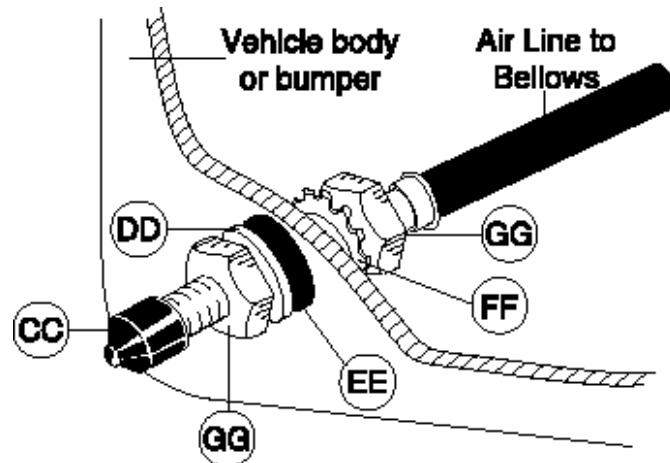

fig. 11
3. Cut the air line assembly (AA) in two equal lengths (Figure 11).
4. Place a 5/16 " nut (GG) and a star washer (FF) on the air valve. Leave enough of the inflation valve in front of the nut to extend through the hole and have room for the rubber
washer (EE), flat washer (DD), and 5/16 " nut (GG) and cap (CC). There should be enough valve exposed after installation - approximately 1/2 " - to easily apply a pressure gauge or an air chuck (Figure 11).
5. Push the inflation valve through the hole and use the rubber washer (EE), flat washer (DD), and another 5/16 " nut (GG) to secure it in place. Tighten the nuts to secure the assembly in place (Figure 11).